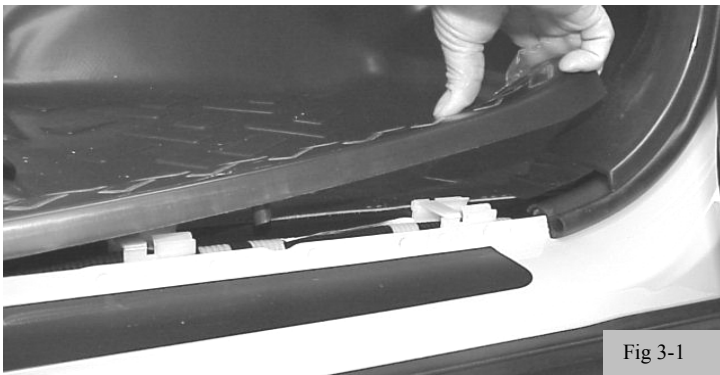

Fig 3-1
- (a) Starting with either side of the vehicle, carefully pull upward on the front edge of the front threshold cover to start removal. (Fig 3-1)